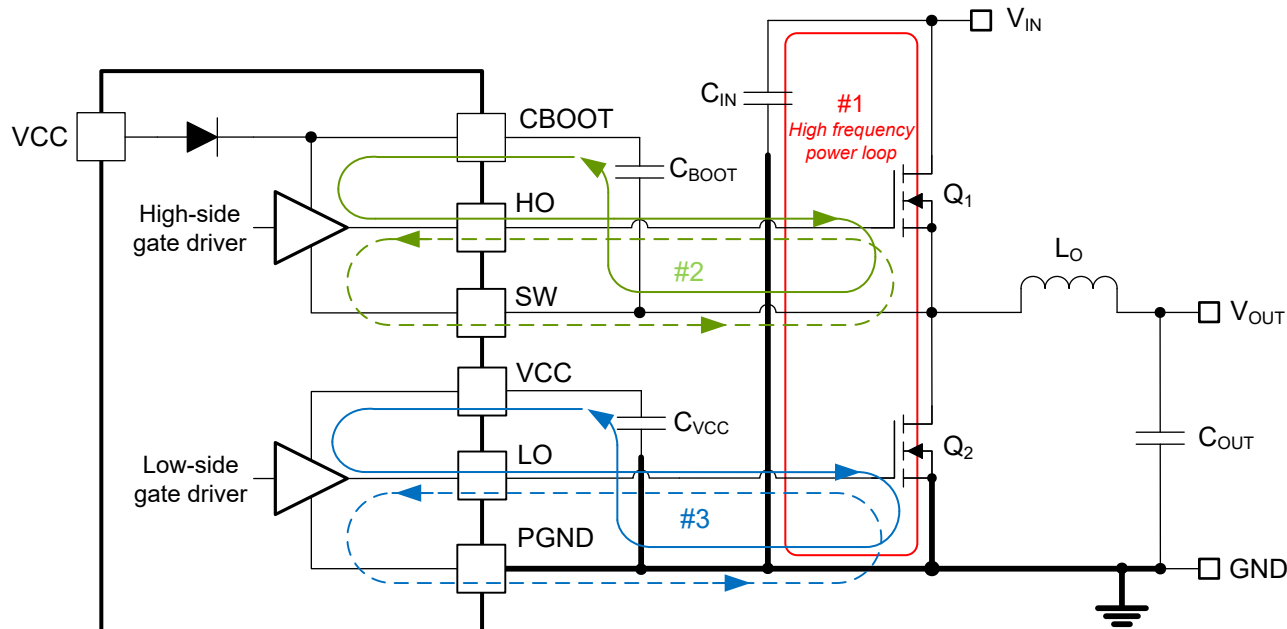

Figure 8-29. DC/DC Regulator Ground System With Power Stage and Gate Drive Circuit Switching Loops
Proper PCB design and layout is important in a high-current, fast-switching circuit (with high current and voltage slew rates) to achieve a robust and reliable design. As expected, certain issues must be considered before designing a PCB layout using the LM5137-Q1. The high-frequency power loop of a buck regulator power stage is denoted by loop 1 in the shaded area of Figure 8-29. The topological architecture of a buck regulator means that particularly high di/dt current flows in the components of loop 1, and reducing the parasitic inductance of this loop by minimizing the effective loop area becomes mandatory. Also important are the gate drive loops of the high-side and low-side MOSFETs, denoted by 2 and 3, respectively, in Figure 8-29.
- Loop 1: The most important loop area to minimize is the path from the input capacitor or capacitors through the high- and low-side MOSFETs, and back to the capacitor or capacitors through the ground connection. Connect the input capacitor or capacitors negative terminal close to the source of the low-side MOSFET (at ground). Similarly, connect the input capacitor or capacitors positive terminal close to the drain of the high-side MOSFET (at VIN). Refer to "loop 1" in Figure 8-29.
5. The SW pin connects to the switch node of the power conversion stage and acts as the return path for the high-side gate driver. The parasitic inductance inherent to loop 1 in Figure 8-29 and the output capacitance (C_{OSS}) of both power MOSFETs form a resonant circuit that induces high frequency (greater than 50MHz) ringing at the SW node. The voltage peak of this ringing, if not controlled, can be significantly higher than the input voltage. Make sure that the peak ringing amplitude does not exceed the absolute maximum rating limit for the SW pin. In many cases, a series resistor and capacitor snubber network connected from the SW node to GND damps the ringing and decreases the peak amplitude. Provide provisions for snubber network components in the PCB layout. If testing reveals that the ringing amplitude at the SW pin is excessive, then include snubber components as needed.
- Loop 2: high-side MOSFET, Q_1 . During the high-side MOSFET turn-on, high current flows from the bootstrap (boot) capacitor through the gate driver and high-side MOSFET, and back to the negative terminal of the boot capacitor through the SW connection. Conversely, to turn off the high-side MOSFET, high current flows from the gate of the high-side MOSFET through the gate driver and SW, and back to the source of the high-side MOSFET through the SW trace. Refer to "loop 2" of Figure 8-29.
- Loop 3: low-side MOSFET, Q_2 . During the low-side MOSFET turn-on, high current flows from the VCC decoupling capacitor through the gate driver and low-side MOSFET, and back to the negative terminal of the capacitor through ground. Conversely, to turn off the low-side MOSFET, high current flows from the gate of the low-side MOSFET through the gate driver and GND, and back to the source of the low-side MOSFET through ground. Refer to "loop 3" of Figure 8-29.